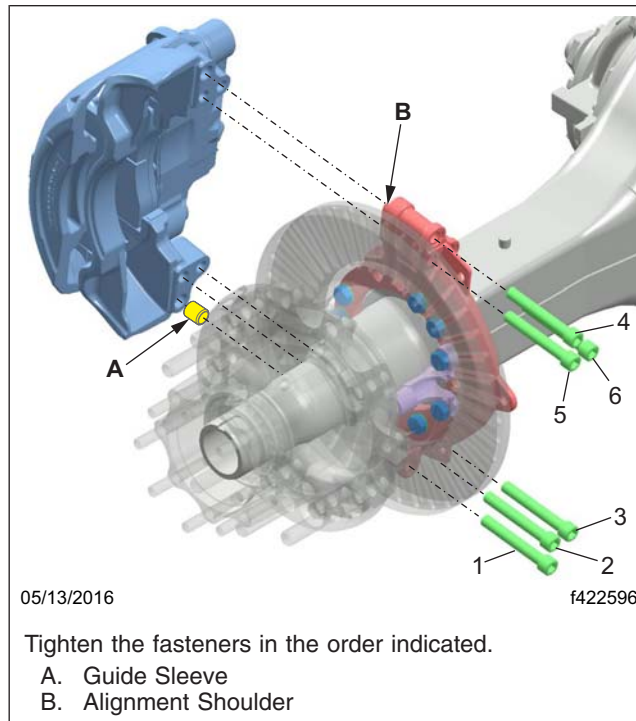

Fig. 1, Tightening Pattern
9. Align each caliper/carrier assembly with the rotor by pushing the fixed pin side of the caliper against the shelf on the torque plate, then install the caliper/carrier assembly using new caliper mounting bolts. See Fig. 1.
10. Tighten the carrier mounting bolts in two steps, using the pattern shown in Fig. 1.
10. Align each caliper/carrier assembly with the rotor by pushing the fixed pin side of the caliper against the shelf on the torque plate, then install the caliper/carrier assembly using new caliper mounting bolts. See Fig. 1, Page 7.
11. Tighten the carrier mounting bolts in two steps, using the pattern shown in Fig. 1, page 7.